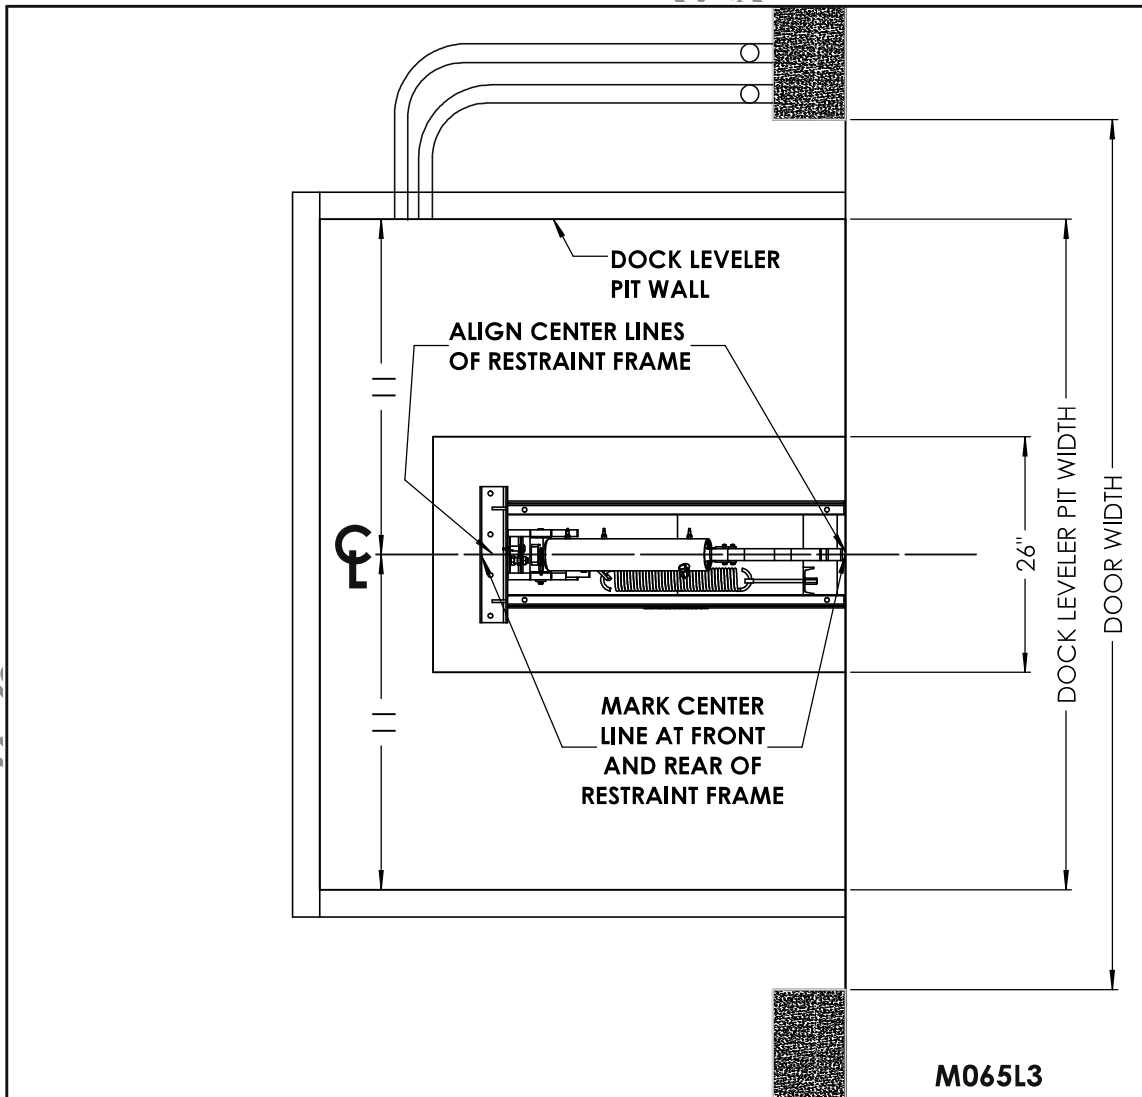

Figure 4: Position the Ultrahook
4. \_\_\_ Mark the center line of the pit floor from front to back (see Figure 4: Position the Ultrahook on page 8).
5. \_\_\_ Mark the center line of the Ultrahook frame at the front and back (see Figure 4: Position the Ultrahook on page 8).
7. \_\_\_ Position the Ultrahook into the pit, keeping the front of the frame flush with the outside surface of the foundation wall. Align centerlines (front and rear) of the Ultrahook with centerlines of the pit (see Figure 4: Position the Ultrahook on page 8).